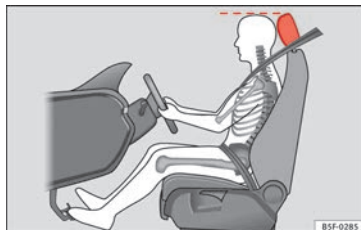

Fig. 95 Correct head restraint position for the driver.
- Adjust the head restraint so that its upper edge is at the same level as the top of your head, or as close as possible to the same level as the top of your head ►► **Fig. 95.**